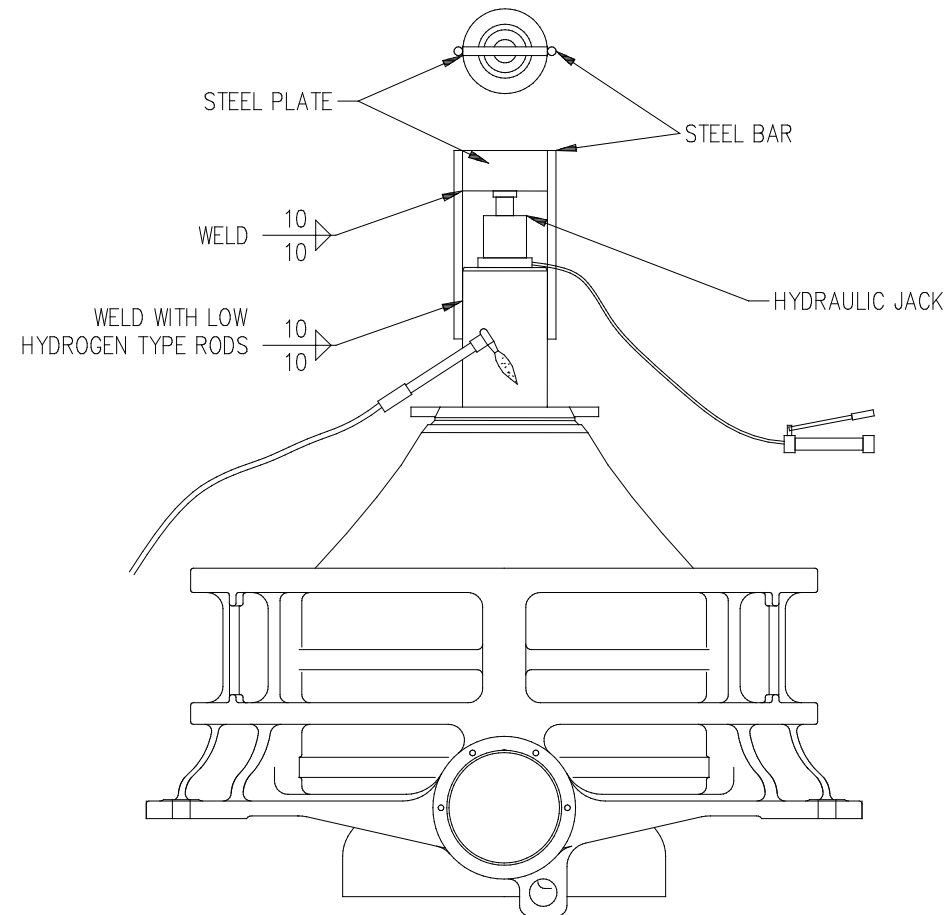

Fig. 6.12.1
2. Prepare for the collar removal as per the following drawing. (Fig. 6.12.1)